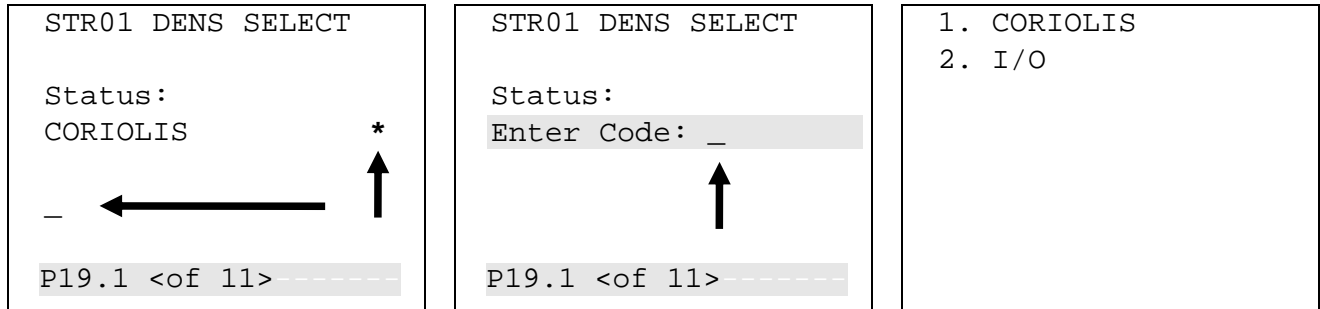

Figure 5-10. Changing a Display Option
You can identify these read/writeable fields by the asterisk at the right edge of the data page and the flashing underline (shown in the left-most page of *Figure 5-10*):
1. Locate the display and press **CHNG**. The middle screen (in *Figure 5-10*) displays. S600+ security (which you set using Config600 software) requires you to provide a code to change values.